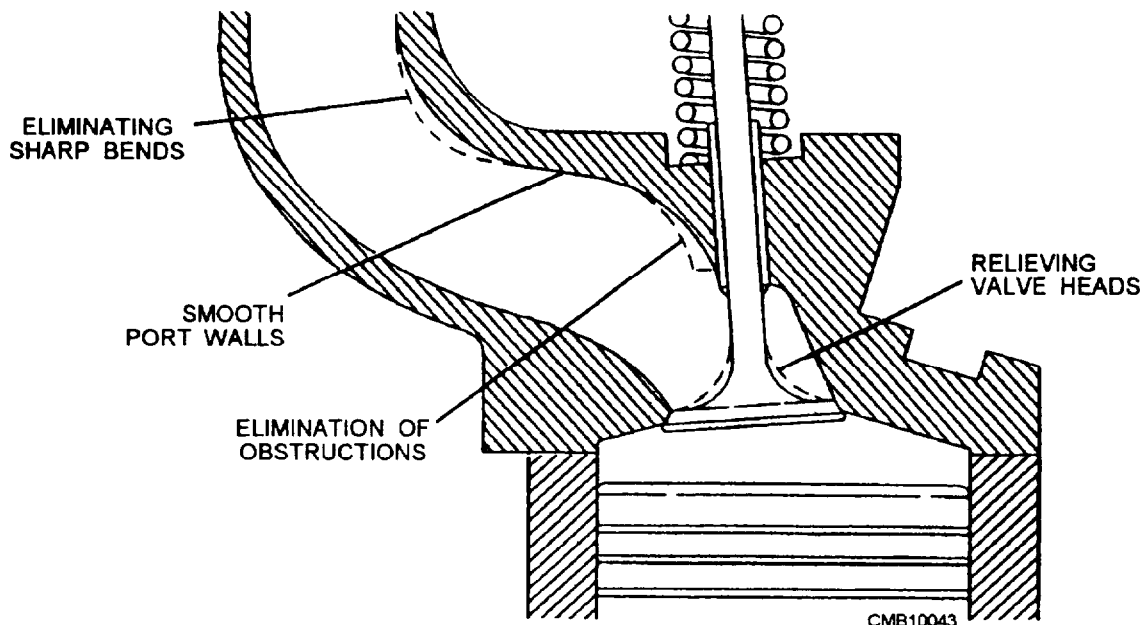

Figure 2-23.—Port design consideration.
- Modify the intake passages (fig. 2-23). Changes to the intake passages that make it easier for the mixture to flow through will increase the volumetric efficiency. Other changes include reshaping ports to smooth bends, reshaping the back of the valve heads, or polishing the inside of the ports.